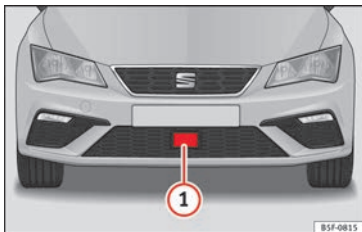

Fig. 210 On the front bumper: radar sensor.
With the vehicle stationary, switch off the engine and start it up again. Check the SEAT badge area on the front » » » **Fig. 210** (in case it is dirty or icy or it has been hit). If it is still unavailable, refer to a specialised workshop to have the system inspected.
»» **Fig. 210 ①**.
This message will be displayed to the driver if the radar sensor's vision is impaired due, for example, to leaves, snow, heavy fog or dirt. Clean the SEAT badge » Fig. 210.